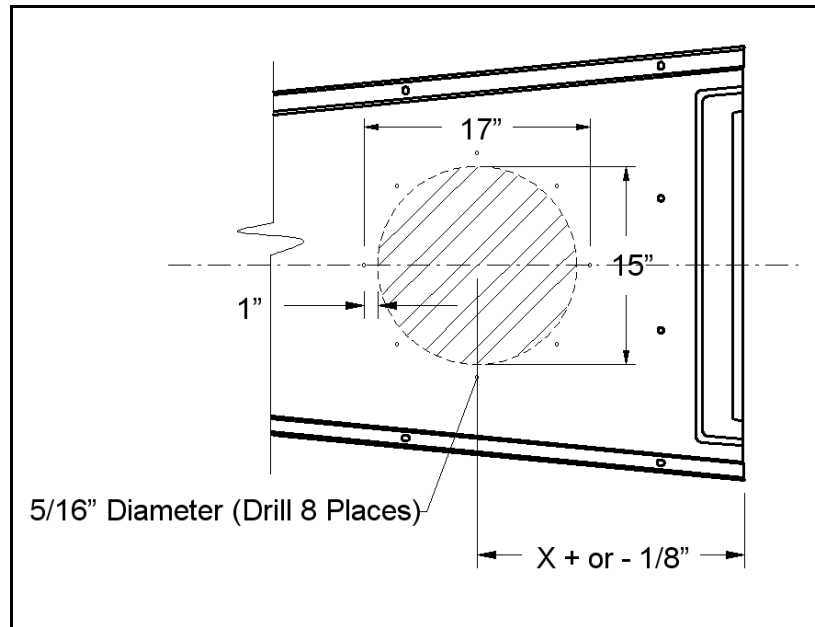

Figure 1 Roof Vent
2. Mark and cut a 15" diameter circle inside the bolt pattern (shaded area) as shown in Figure 1.